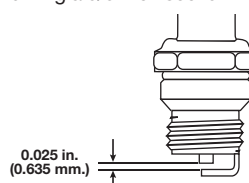

Fig. 36
3. Replace a cracked, fouled or dirty spark plug. Set the air gap at **0.025 in. (0.635 mm)** using a feeler gauge (Fig. 36).